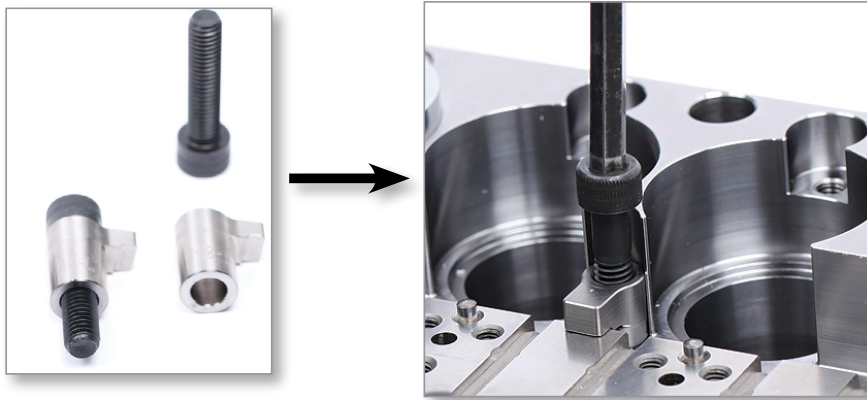

Figure 5-98 Install side clamp - specific systems only
- For 8-drop Melt-Cube systems with either a 40 or a 50 mm pitch, a side clamp must be installed and tightened to 10 Nm (7.5 ft.-lb). See Figure 5-98.